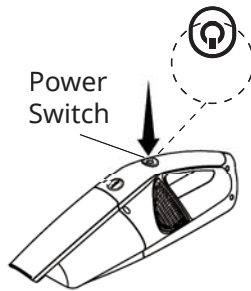

Fig.16
- To turn on the handheld vacuum cleaner, press the power switch located on top of the handle (Fig.16).